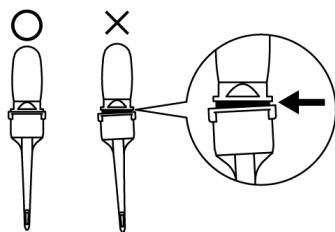

Fig. 11
- Securely insert the tip all the way by referring to the figure below. If the tip is inserted incorrectly, the nozzle will come off and accidental ingestion may occur (Fig. 11).